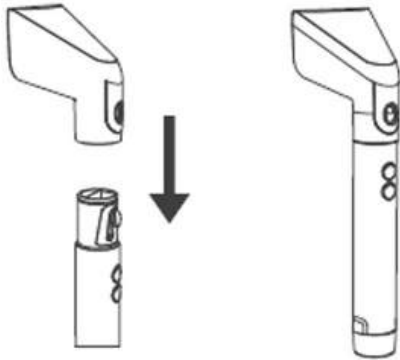

Fig. 4
2. Install the steam brush head (with the brush head cover attached) onto the handle of brush by operating the brush fastener (see Fig.4).